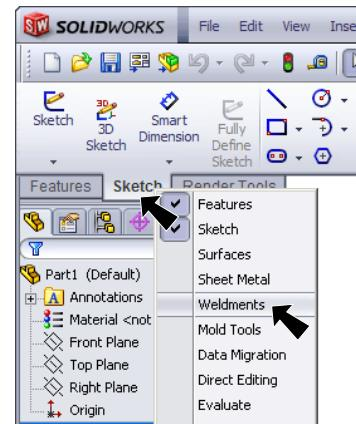

Fig. 1
Step 2. Right click Sketch on the Command Manager toolbar and select Weldments, Fig. 1.